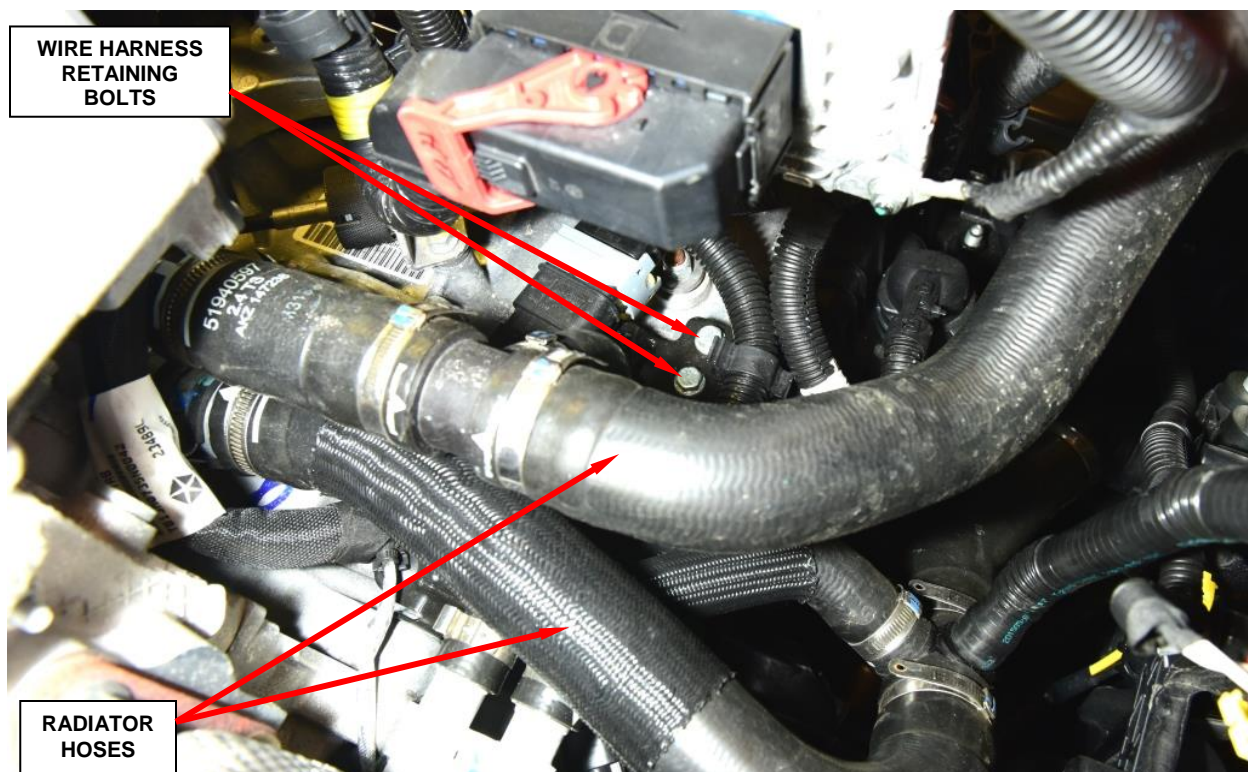

Figure 1 – Wire Harness Bracket Retaining Bolts
4. **For BU/FB models**, remove and save the two transaxle wire harness bracket retaining bolts (Figure 1).
7. For BU/FB models, using a suitable pry tool, remove the clip holding the transaxle round wire harness connector socket in the valve body cover (Figure 1).
10. Place a drain pan into position and remove and save the transaxle oil drain plug (Figure 1).